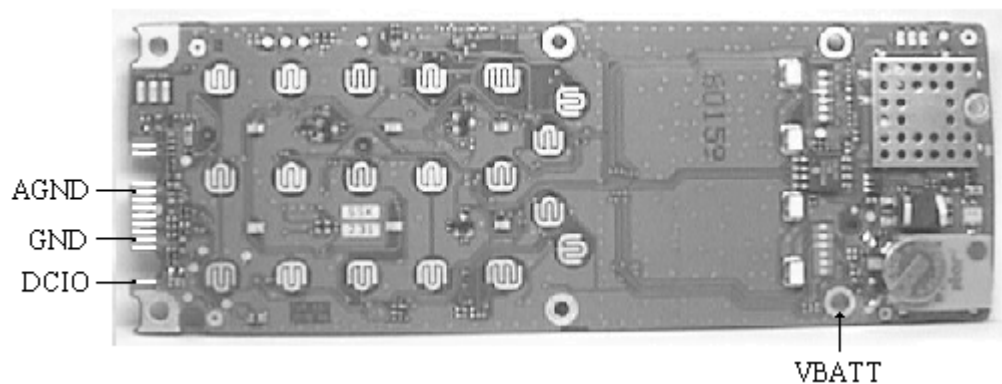

Fig. 6.5
Measure the resistance from DCIO to VBATT (~390 ohms, fig. 6.5).
- * If the measured values are correct, check the resistance from DCIO to R467 (~0 ohms, fig. 6.5, 6.6).
Check the resistance from GND (pad 10) to AGND (pad 4) at the system connector (~0 ohms, fig. 6.5).
* If the values are correct, check the resistance from DCIO to R467 (~0 ohms, fig. 6.5, 6.6).
Check the resistance from GND (pad 10) and AGND (pad 4, fig. 6.5) at the system connector pads (~0 ohms).